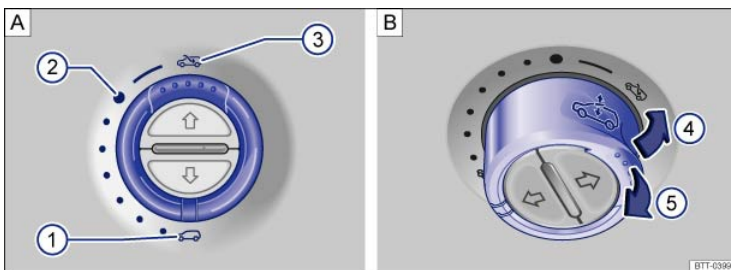

Fig. 30 In the headliner: Rotary switch for the power sunroof.
The comfort position → Fig. 30② provides sufficient ventilation without loud wind noise.
- The switch ⇒ *Fig. 30* must be rotated to the Closed position  ①.
- The switch ⇒ *Fig. 30* must be rotated to the Closed position ① .
- *Power sunroof:* Within 5 seconds after the pinch protection was triggered, pull the rear part of the switch ⇒ *Fig. 30*  until the sunroof is fully closed.